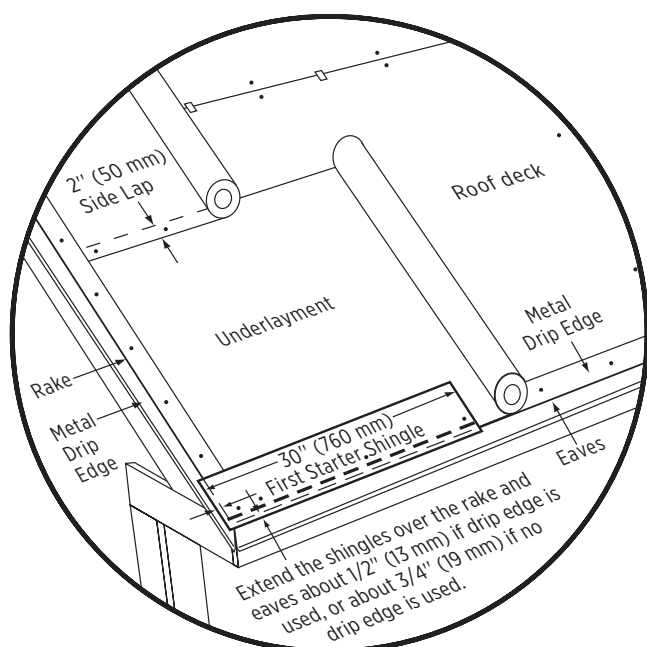

Figure 10-7: Standard slope underlayment and starter drip edge details.
3. Continue with full-length starter course shingles along the eaves (Figure 10-7).
2. Cut 5" off the length of the first starter strip and apply the resulting 31" piece at the lower left corner of the roof. This starter strip should overhang the rakes and eaves 1/2" when drip edge is used, or 3/4" when no drip edge is used (Figure 10-7).